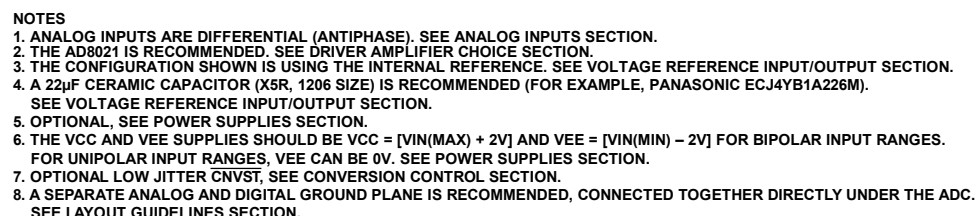
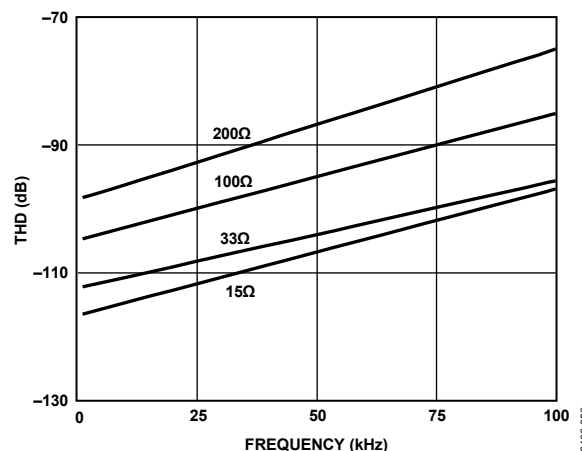
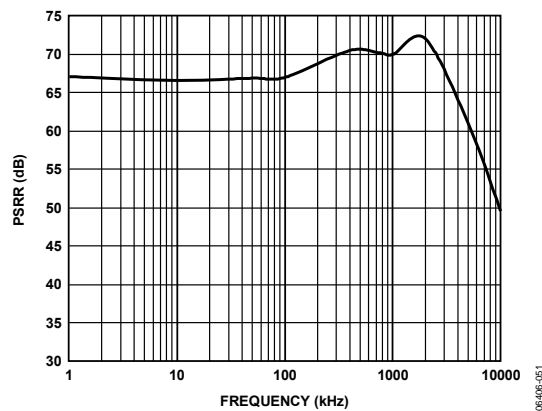

Figure 27. Typical Connection Diagram Shown with Serial Interface and Serial Programmable Port
Figure 30. THD vs. Analog Input Frequency and Source Resistance
Figure 33. AVDD PSRR vs. Frequency
Figure 27 shows a typical connection diagram for the AD7634 using the internal reference, serial data interface, and serial configuration port. Different circuitry from that shown in Figure 27 is optional and is discussed in the following sections.
Because the input impedance of the AD7634 is very high, it can be directly driven by a low impedance source without gain error. To further improve the noise filtering achieved by the AD7634 analog input circuit, an external, one-pole RC filter between the amplifier's outputs and the ADC analog inputs can be used, as shown in Figure 27. However, large source impedances significantly affect the ac performance, especially the THD. The maximum source impedance depends on the amount of THD that can be tolerated. The THD degrades as a function of the source impedance and the maximum input frequency, as shown in Figure 30.
- The noise generated by the driver amplifier needs to be kept as low as possible to preserve the SNR and transition noise performance of the AD7634. The noise coming from the driver is filtered by the external 1-pole low-pass filter, as shown in Figure 27. The SNR degradation due to the amplifier is
The AVDD and DVDD supply the AD7634 analog and digital cores, respectively. Sufficient decoupling of these supplies is required consisting of at least a 10 μ F capacitor and a 100 nF capacitor on each supply. The 100 nF capacitors should be placed as close as possible to the AD7634. To reduce the number of supplies needed, the DVDD can be supplied through a simple RC filter from the analog supply, as shown in Figure 27.
The AD7634 requires sequencing of the AVDD and DVDD supplies. AVDD should come up prior to or simultaneously with DVDD. This can be achieved using the configuration in Figure 27 or sequencing the supplies in that manner. The other supplies can be sequenced as desired as long as absolute maximum ratings are observed. The AD7634 is very insensitive to power supply variations on AVDD over a wide frequency range, as shown in Figure 33.